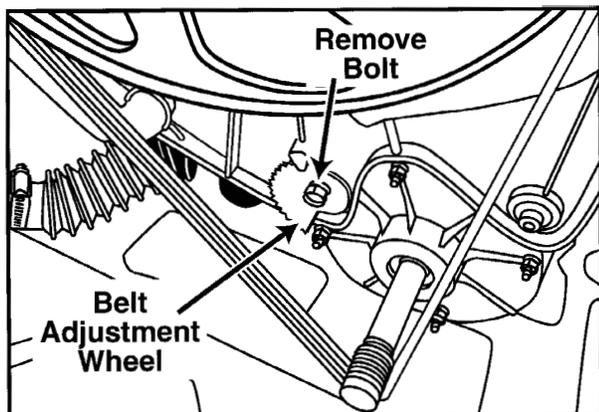

Figure 8-2
3. From the rear, locate the belt adjustment wheel and note the adjustment number aligned with the rib of the outer tub. This will help later when the belt adjustment wheel is placed back onto the outer tub and the belt is remounted on the motor and drive pulley. Remove the bolt securing the belt adjustment wheel (*Figure 8-2*).